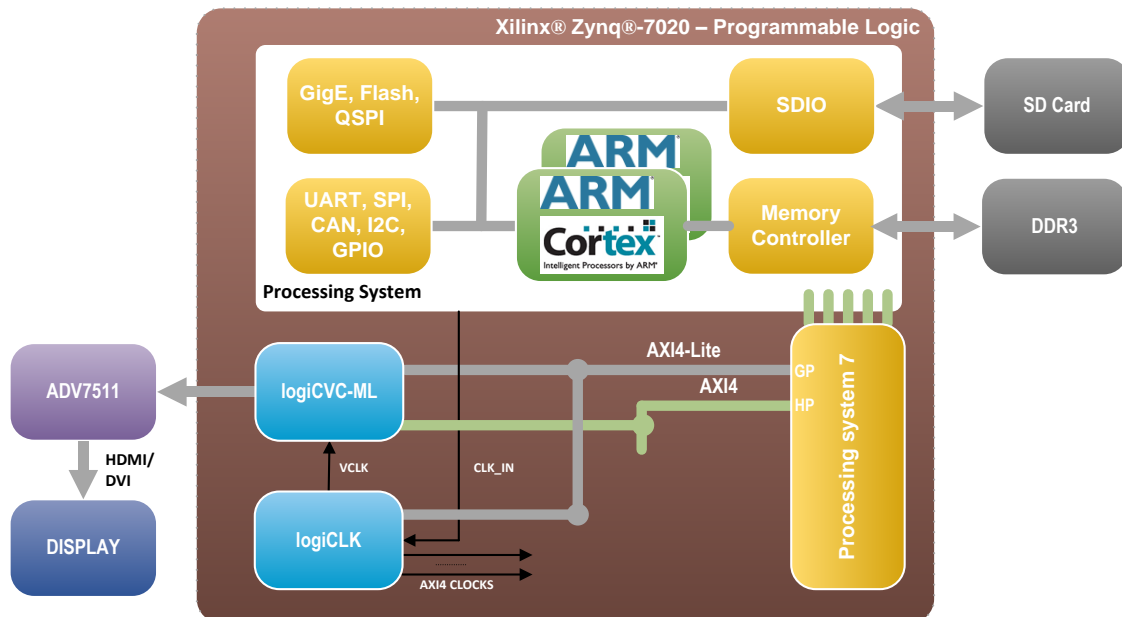
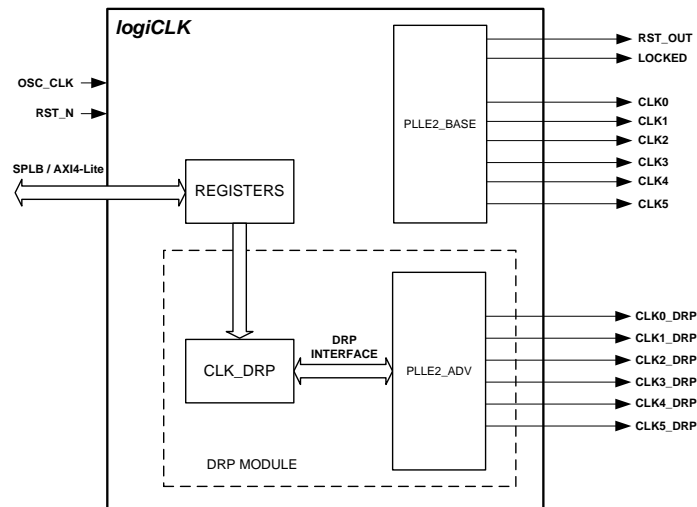

Figure 23: A Minimal Zynq-7000 AP SoC Display Controller
Figure 27: logiCLK Architecture
Figure 23 shows an example architecture featuring only the logiCVC-ML display controller IP core. Such a configuration provides no graphics acceleration in the programmable logic and all graphic contents must be fully drawn by the Processing System (PS). The consumption of programmable logic resources is minimal. The Figure 27 shows clocking structure details – please see the chapter 6 VIDEO OUTPUT CLOCKING.
Alongside graphics logicBRICKS IP cores, Xylon has included a small utility clock module – the logiCLK Programmable Clock Generator IP core to enable users to easily change display resolutions from the logiREF-ZGPU-ZC702 reference design (Figure 27).